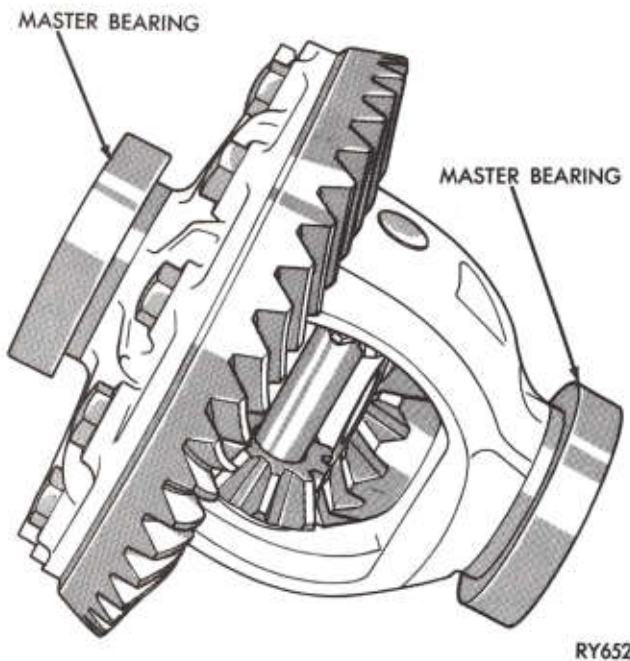

Fig. 10—Master Bearing Installed
(1) Lubricate all parts with differential lubricant. Install differential side gears and thrust washers, pinion mates and thrust washers and pinion mate shaft in differential case. Align hole in shaft with hole in case. Drive in lock pin. **If new gears and washers are used, it will not be necessary to check gear backlash. Correct fit is provided due to close manufacturing tolerances.**
(2) Place differential case assembly in holding fixture. Install drive gear with new bolts. Tighten bolts to 45-60 ft. lbs. (61 to 81 N-m).
(3) Install master differential bearings Tool D-135 onto case (Fig. 10).